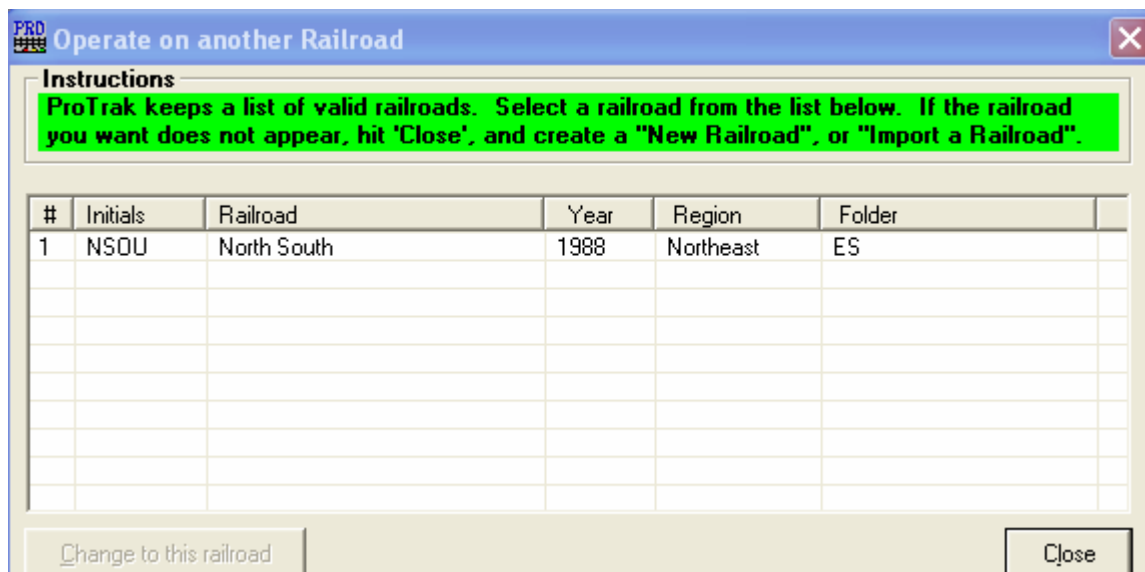

Figure 1-1
1. If you need to change home railroads, on the ProTrak toolbar, click on "File" then choose "Change home railroad". Figure 1-1 shows the window that will be displayed. (Note that there may be other railroads shown if you have done any creation work).